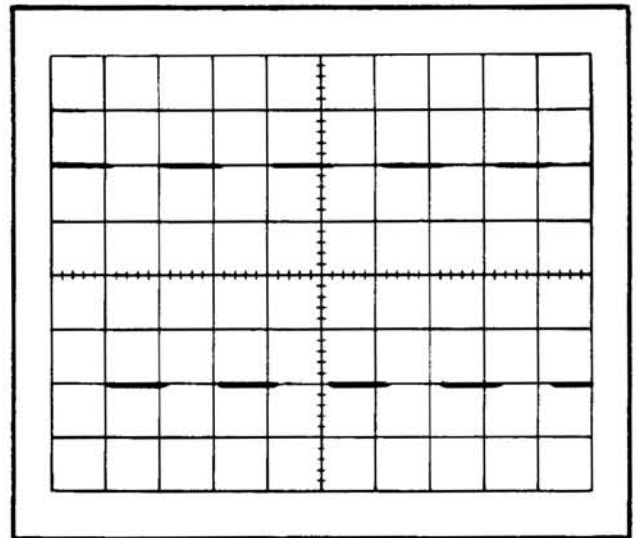

Fig. 5-2. Typical CRT display showing correct vertical gain. Vertical deflection, 0.05 volts/division.
- CHECK—CRT display four divisions ± 0.12 division, in amplitude (error $\pm 3\%$; see Fig. 5-2).